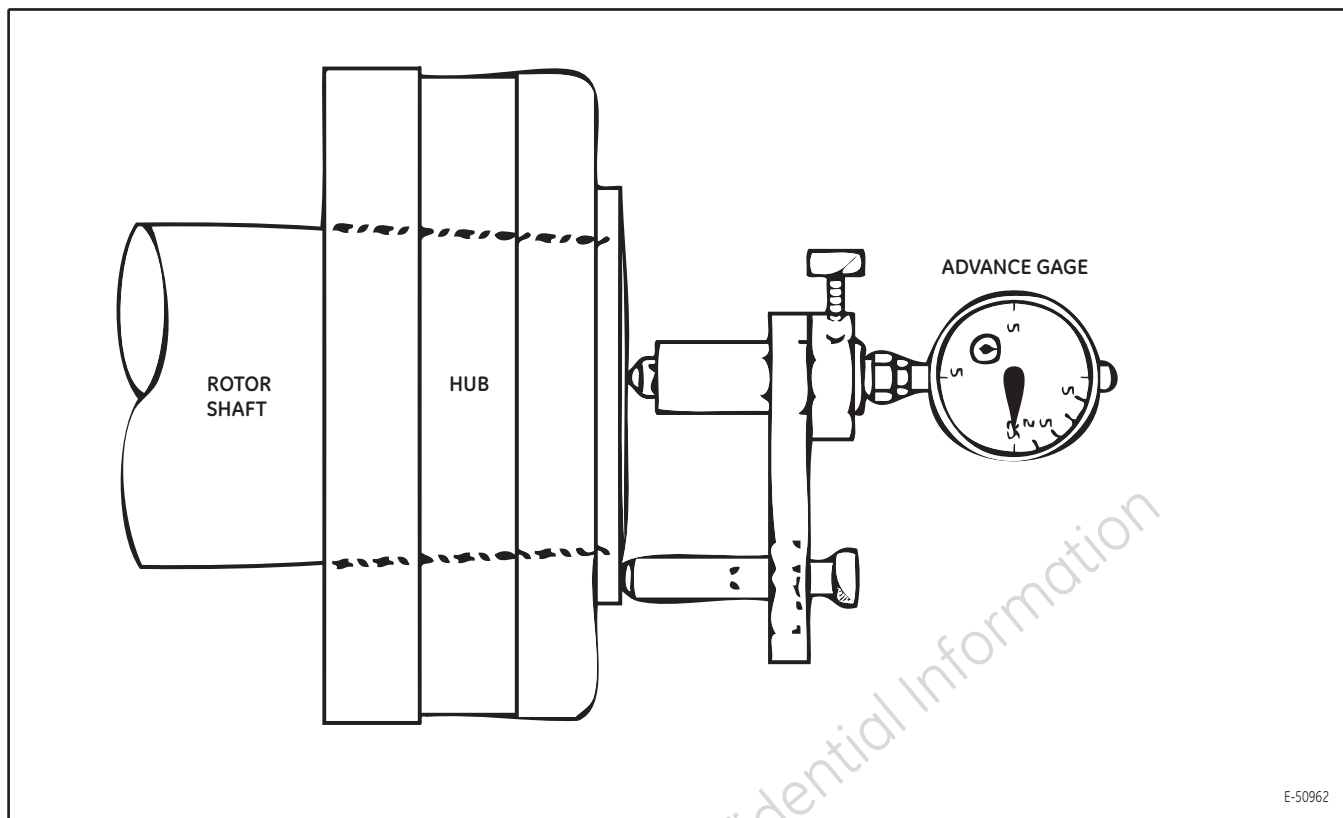

Figure 14. Using Advance Gage for Hub Installation.
3. Trial mount the cold hub onto the shaft. Measure and record the position of the hub with respect to the end of the shaft. Take measurements with a micrometer advance gauge (similar to that shown in Figure 14). Zero the gauge. Refer to Figure 39 in section 6.4.3.6. *Hub Installation Advance Gage* in this publication for advance gage information.
9. Check the hot or shrunk-on position of the hub on the shaft. The advance from cold to hot position along the axis of the shaft must be held within the limits indicated. Check the actual advance with an indicator gauge, located in the same relative position as used to measure the cold position in Step 3 (as shown in Figure 14).